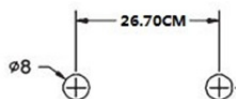

Fig. 1
3. Drill two holes with the dimensions of the expansion pipes $\varnothing - 8$ mm - in the wall (see figure 1) D= 267 mm.